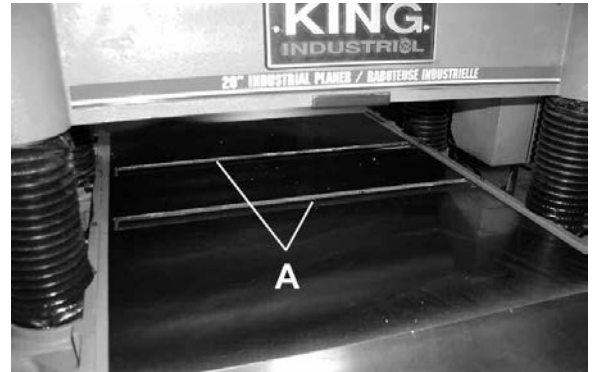

FIGURE 9
Your Planer is supplied with two table rollers (A) Fig.9, which aid in feeding the stock by reducing friction and turn as the stock is fed through the Planer. It is not possible to give exact dimensions on the proper height setting of the table rollers because each type of wood behaves differently.